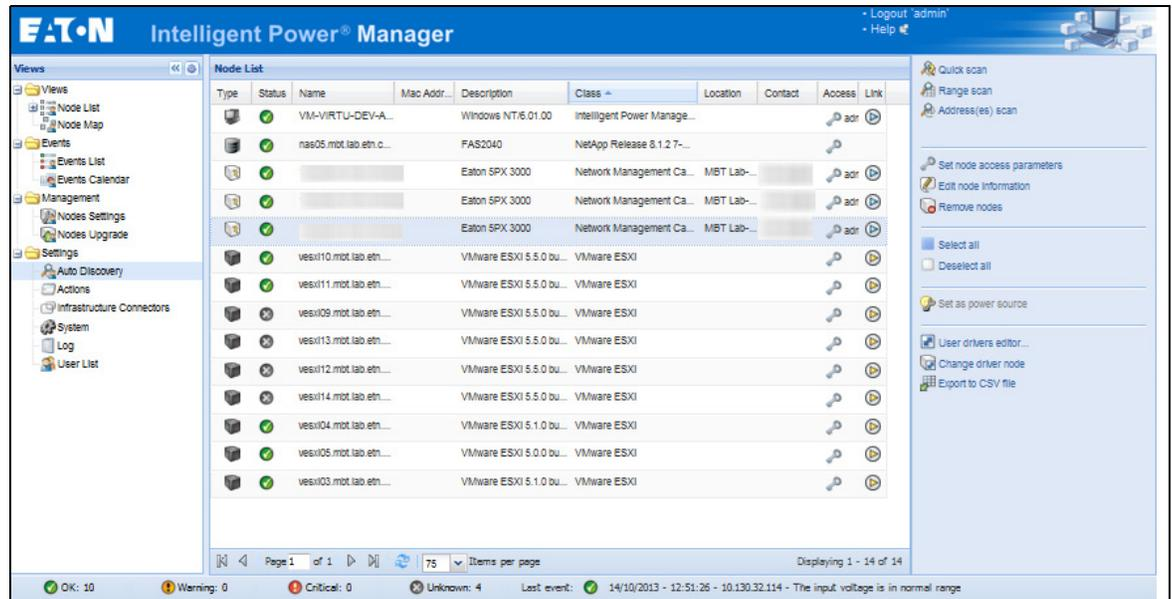

Figure 8. Quick Start - Auto Discovery Page
- Display the discovered nodes using **Settings > Auto Discovery** (see Figure 8).